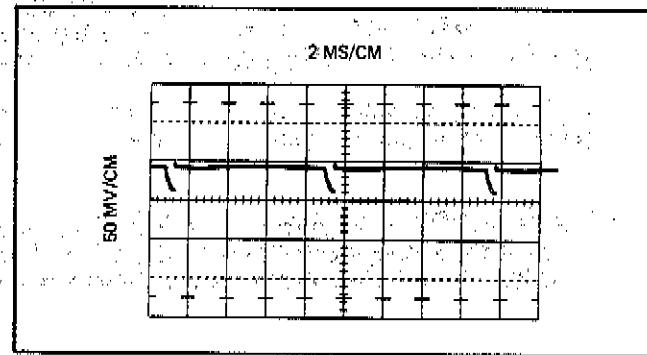

Figure 4-18. PRE-REGULATOR Q1, WAVEFORM ON OPR
- Set the POWER switch to OPR. The waveform should appear as shown in Figure 4-18.